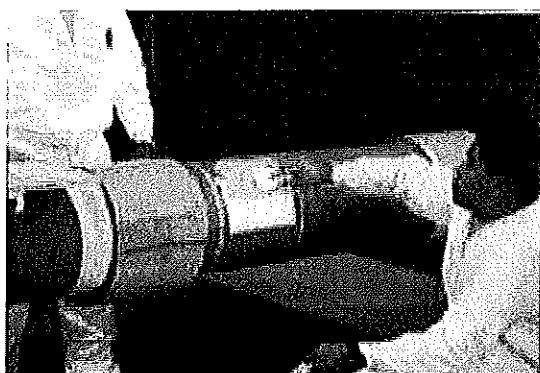

Figure 8
- 4.7 Using the 3-inch (76 mm) putty knife, apply filler to all voids, both edges of the longitudinal weld and on one edge of the starter pad (for the leading edge placement of the Clock Spring® (Figure 8). Ensure sufficient filler is applied to provide intimate contact between the prepared pipe surface and the Clock Spring® sleeve to be installed.